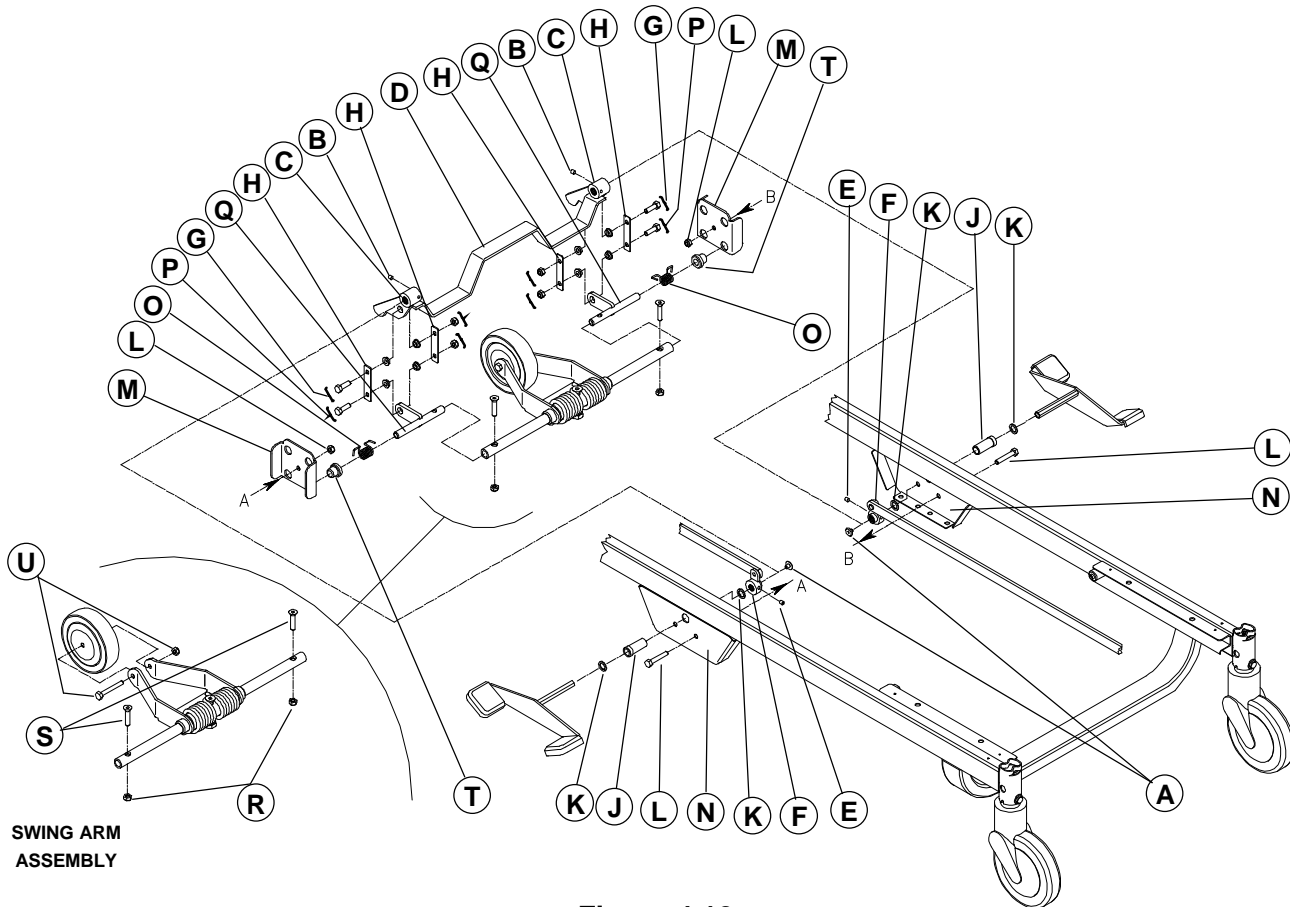

Figure 4.12
Unless otherwise stated, all reference points contained in section 4.12 procedures will refer to figure 4.12 above.
**ACTIVATION LEVER (D, fig. 4.12)**